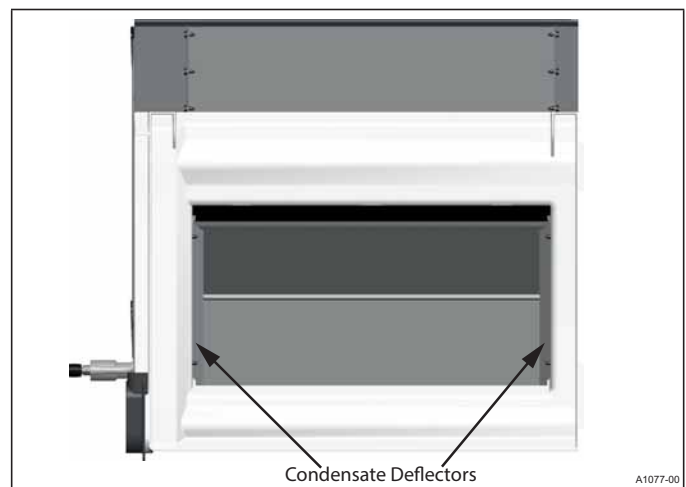

FIGURE 10: 60C Horizontal Right Coil Condensate Final Assembly
3. Tighten the screws that secure the delta plates to the primary drain pan. The interactive fit of the delta plate, primary drain pan, and screws will hold the shields firmly in place during operation. Figure 10 shows the final assembly.